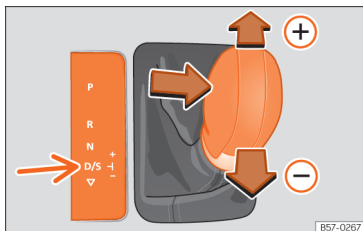

Fig. 135 Lever in the Tiptronic position
- Push the lever forwards or backwards to move up or down a gear **Fig. 135**.